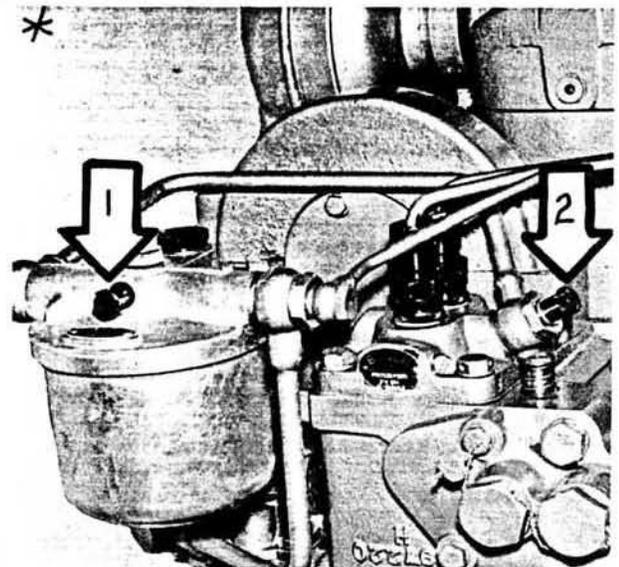

Fig. 61. Air-venting the fuel system
1. Open the air-venting screw on the fuel filter. See the arrow. (FIG. 61)